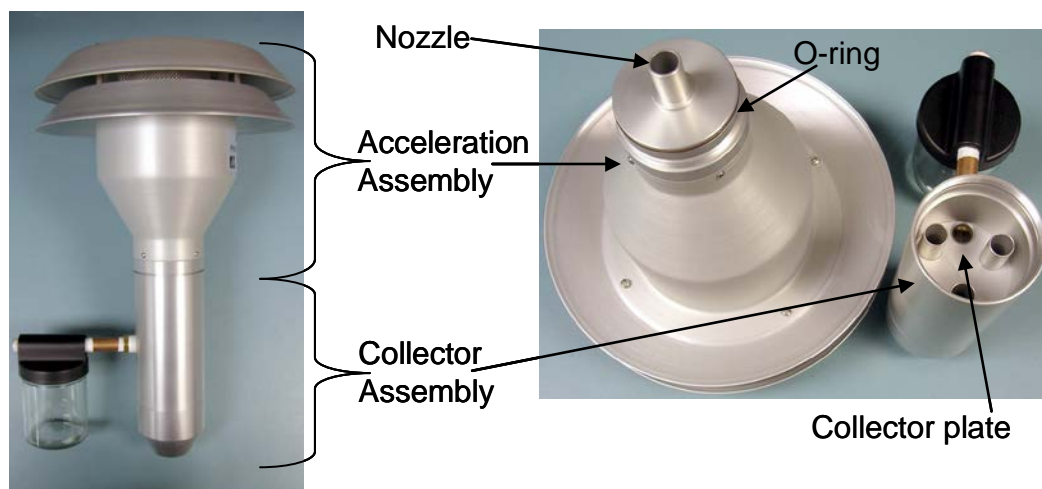

Figure 8: Diagram of PM₁₀ head inlet components (Vaughn, 2009)
2. Unscrew the collector assembly from the acceleration assembly as shown Figure 8.